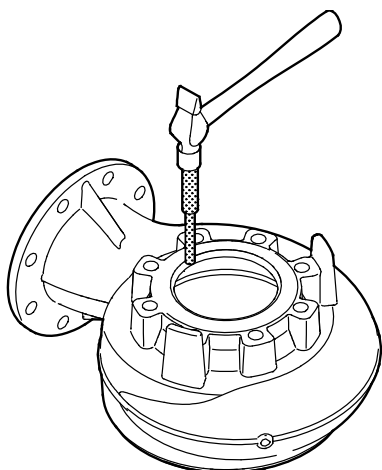

Fig. 4 Removing the seal ring
2. Remove the seal ring (46) from the pump housing by knocking it out with a punch (G) and a bench hammer (I), see fig. 4, or by prising it out with a screwdriver (H).